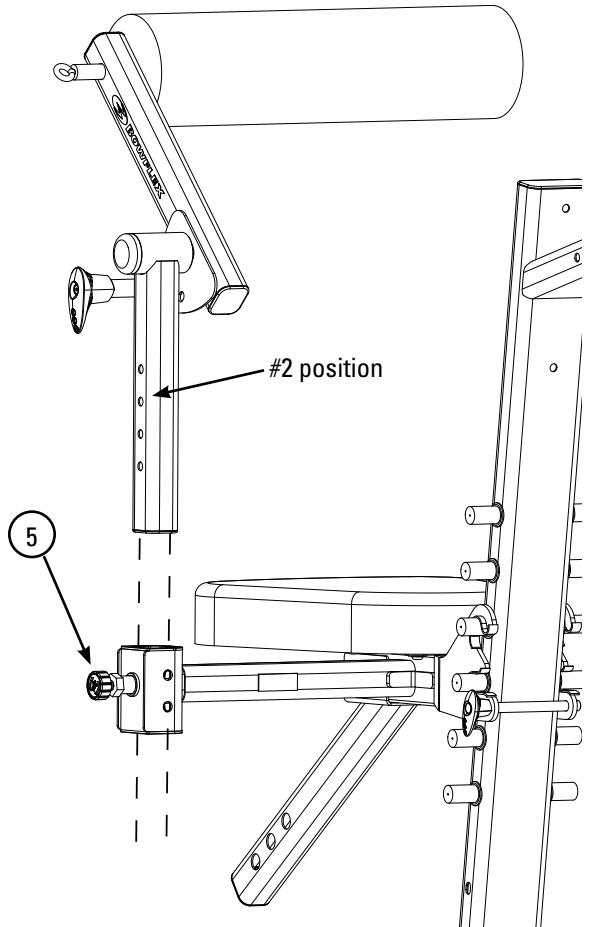

Figure 5a - view from behind seat
5-1 Insert the Upper Assembly in the side bracket on the Seat Assembly (**Figure 5a**). Lock the Upper Assembly in the #2 position with the Lock Knob (5).